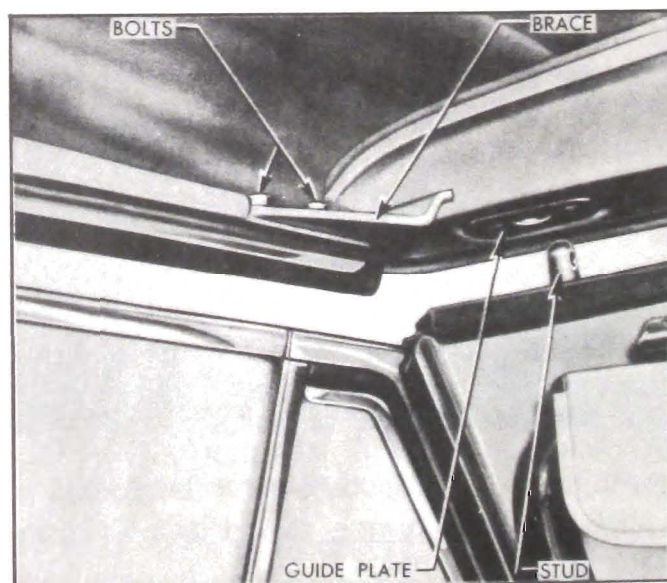

Figure 13-56—Corner Brace at Front End of Roof Side Rail
2. Loosen attaching bolts in corner brace at front end of roof side rail. See figure 13-56.